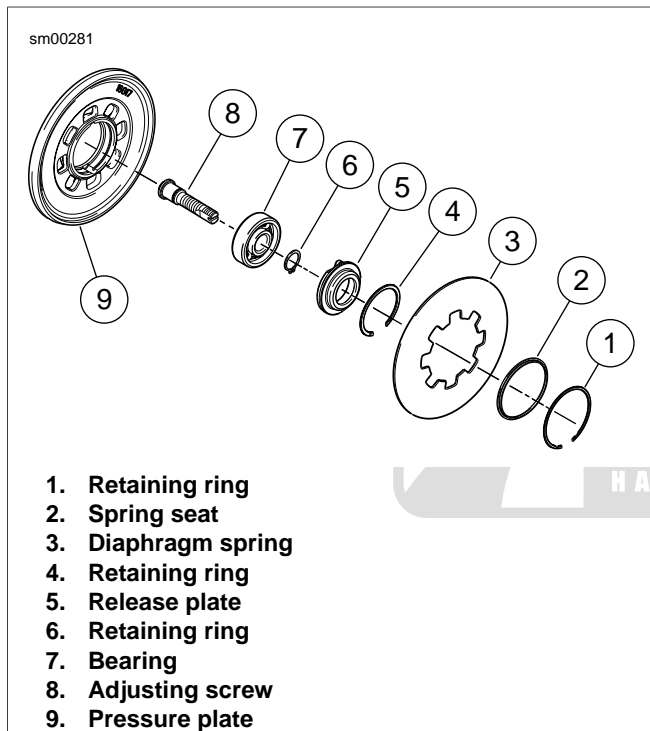
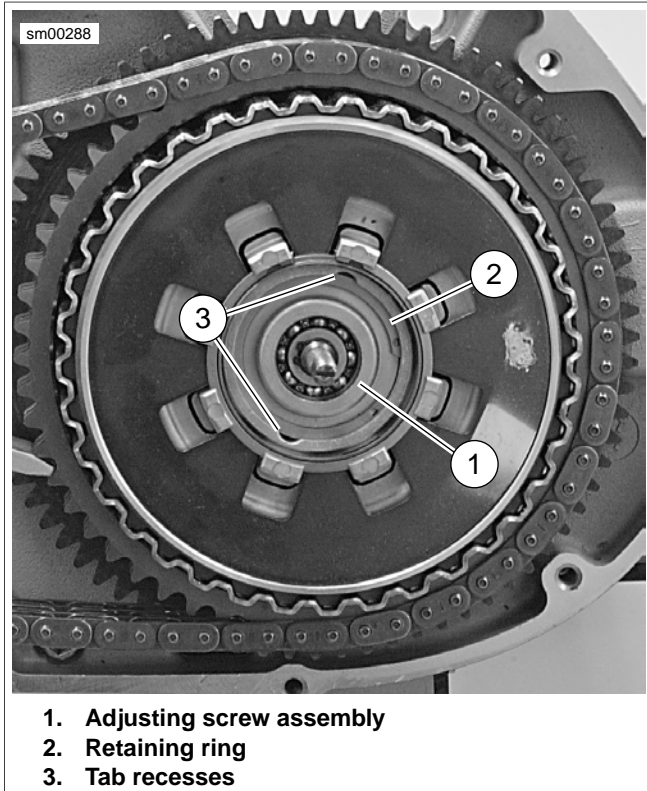

Figure 5-17. Adjusting Screw Assembly
Figure 5-23. Clutch Adjusting Screw Assembly and Retaining Ring
1. See Figure 5-17. Remove adjusting screw assembly.
- a. Remove and discard small retaining ring (6).
- b. Separate the adjusting screw (8) from the bearing (7) and release plate (5).
- c. Remove bearing (7) from release plate (5).
- a. See Figure 5-23. Align two tabs on perimeter of release plate with corresponding recesses (3) in pressure plate.